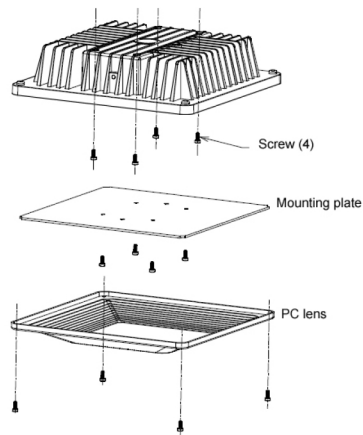

FIG. 1
1. Remove the four screws attaching the lens diffuser to the fixture and set the screws and lens aside (see FIG.1).